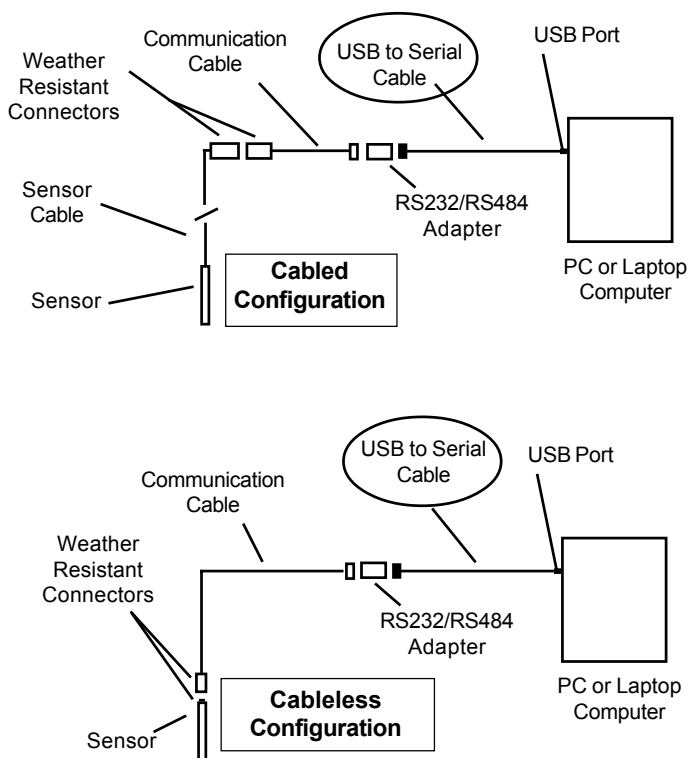

Figure 19: Connection using a USB to Serial Cable
The standard communication cable/RS485-232 adapter that comes with the Smart Sensor plugs into a 9-pin serial port on the PC or laptop. Many new computers, especially laptops, do not come with 9-pin serial ports. If you have one of these computers, or if all of your serial ports are in use, you can connect to a Smart Sensor using a USB to Serial adapter, as shown in figure 19.
- Connect to the sensor (figure 19).